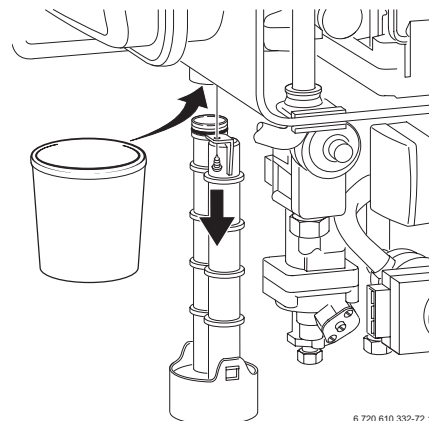

Fig. 48
- ▶ Unscrew condensation trap and place suitable container underneath. Refer to fig. 48.
In order to prevent spillage of condensate the condensation trap should be completely removed, (see page 38, fig. 48).